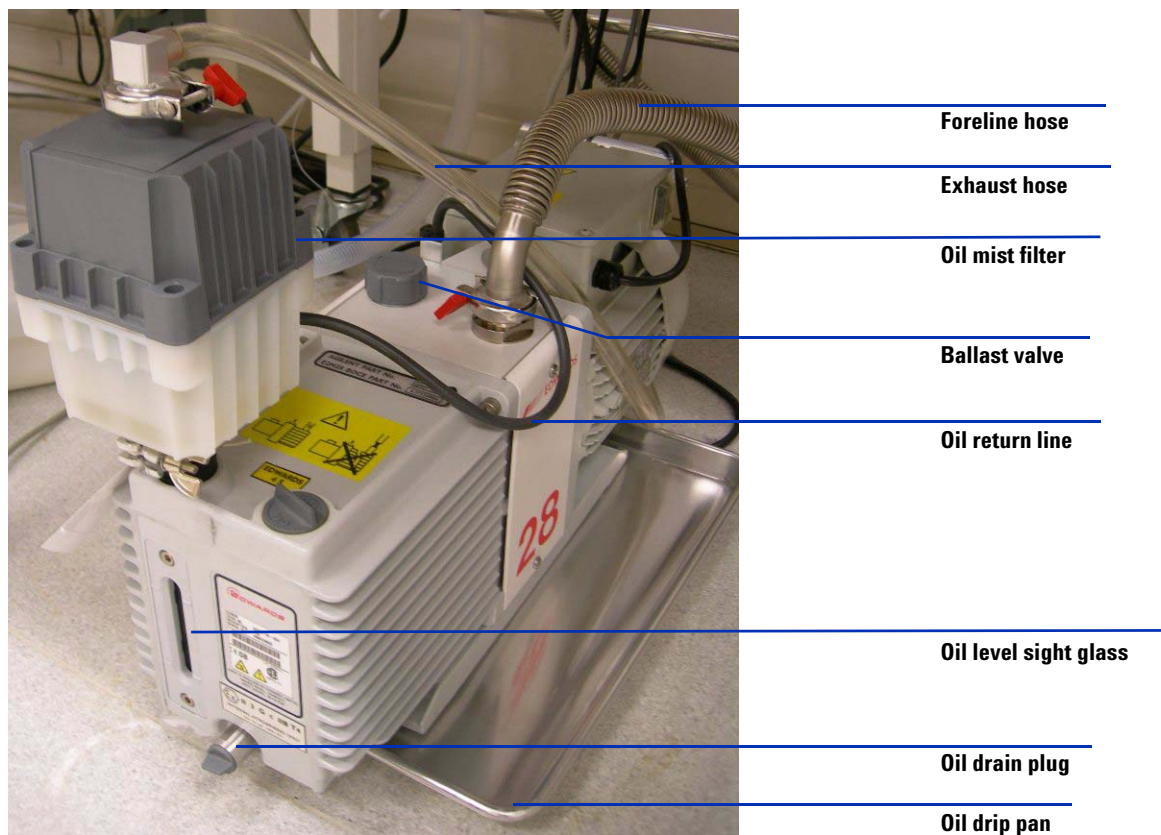

Figure 74 Rough pump.
- 3 Remove the fill cap on the rough pump (see Figure 74).
- 4 Add new pump fluid until the fluid level is near, but not over the maximum mark beside the fluid level window (see Figure 74).
- 3 Place a container under the drain plug of the rough pump (see Figure 74 on page 116).
- 4 Remove first the fill cap (see Figure 74 on page 116), then open the drain plug.
- 6 Pour in new pump fluid until the fluid level is near, but not above the maximum mark beside the fluid level window (see Figure 74 on page 116).